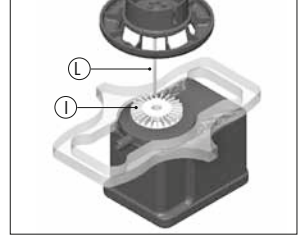

fig 7
- Make sure the fitting on the impeller cover (G) corresponds to the connection for the air intake tube on the air intake chamber and click on (H) –fig.7.